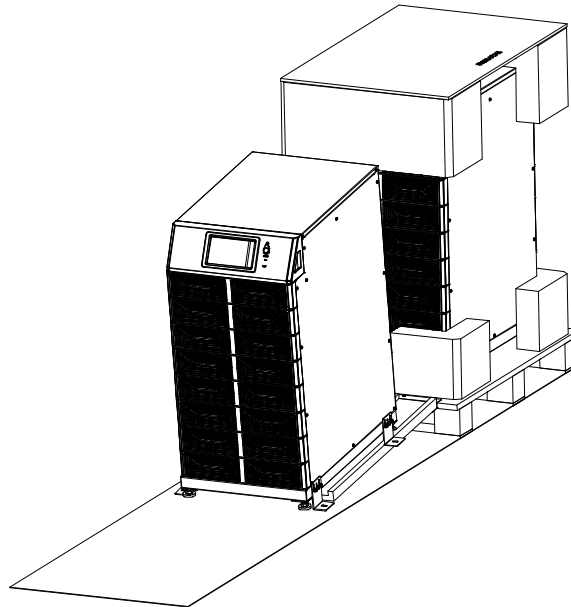

Figure 3-6 Remove the buffer foam
Step 4 After removing the side panels around the box, remove the cushioning foam, install the ramp pallet, and push the UPS down the pallet. This is shown in Figure 3-6;